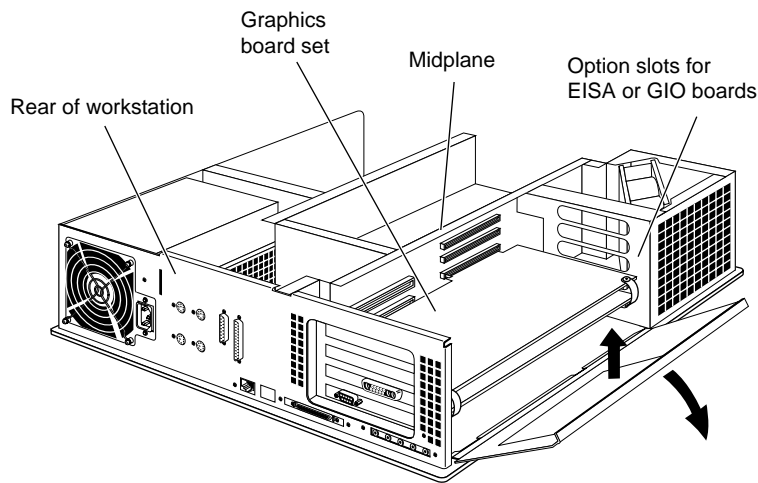

Figure 4-7 Locating the Option Slots
2. Move the workstation or position yourself so that you are facing the option slots. The option slots are located at the side and rear of the workstation, as shown in Figure 4-7.